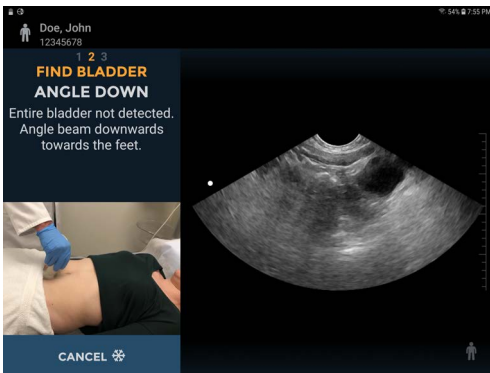

FIGURE 18. Transducer positioning
- If the probe is incorrectly positioned, the display will prompt you to angle the probe (FIGURE 18. Transducer positioning).